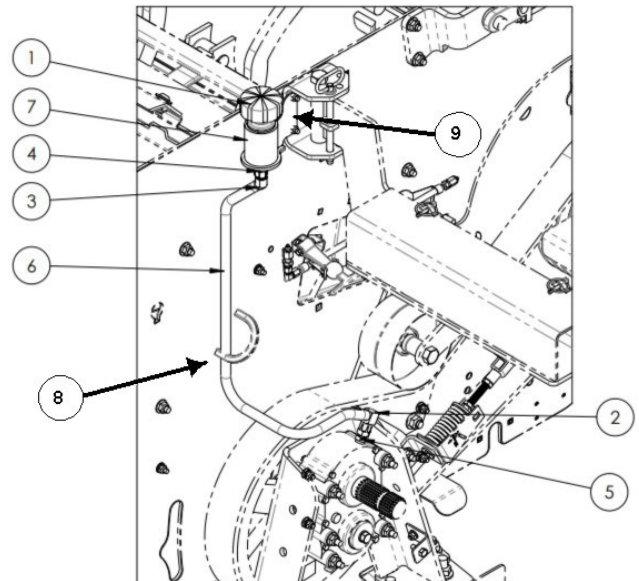

Figure 3: Install breather extension
1. Connect the expansion tank (7), breather cap (1) and hydraulic fitting adapter (4) together, see *Table 2* and *Figure 3*.
2. Fasten the breather extension mount (9) to the machine using existing hardware, see *Figure 3*.
4. Connect the hydraulic fitting adapter (5) to the gearbox, see *Figure 3*.
5. Loosely attach the 90° elbow (2) to the adapter (5) on the gearbox, see *Figure 3*.
6. Loosely attach the 90° elbow (3) to the adapter (4), see *Figure 3*.
7. Route the hydraulic hose (6) through the gaurding (8) (not shown for clairity) and attach to elbows (2) and (3), see *Figure 3*.
8. Secure the hydraulic hose (6) to existing hoses and ensure it is clear of the belt drive, see *Figure 3*.